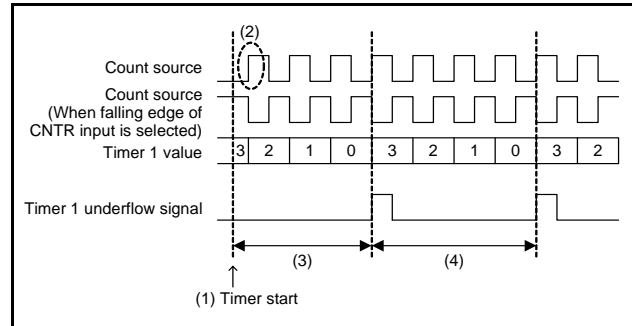

Fig 35. Timer count start timing and count time when operation starts
Count starts from the first rising edge of the count source (2) in Figure 35 after prescaler and timer operations start (1) in Figure 35.
Time to first underflow (3) in Figure 35 is shorter (for up to 1 period of the count source) than time among next underflow (4) in Figure 35 by the timing to start the timer and count source operations after count starts.